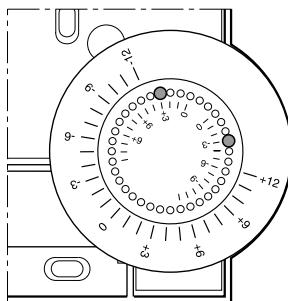

Fig. 6: Limiting the adjustment range
- ▶ Place the two small pins into the holes of the adjustment dials in order to limit the adjustment range (see Fig. 6). Orientate yourself on the basis of the inner scale:
In Fig. 6, the pins are inserted so that the adjustment dial can only be adjusted by $\pm 3^{\circ}\text{C}$ around the zero point.